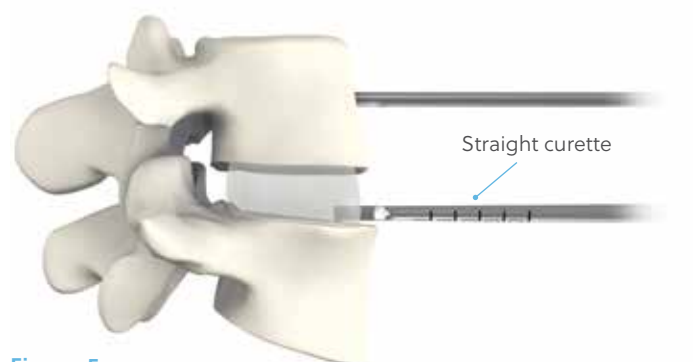

Figure 5
- Remove the disc with a disc forceps and the straight curette (**Figure 5**). This step allows removal of most all the disc tissue for prosthesis placement.